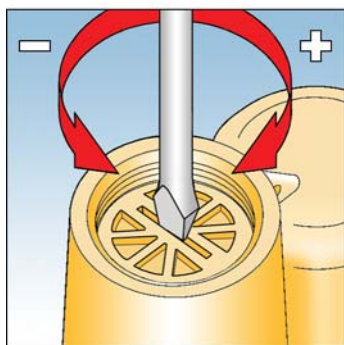

Fig. 5
- 4) If safety shut-off device is fitted unscrew reset spindle end cap and firmly pull. Hold in this position until the outlet pipework is fully pressurised, then release reset spindle end cap gently. See Fig. 5.